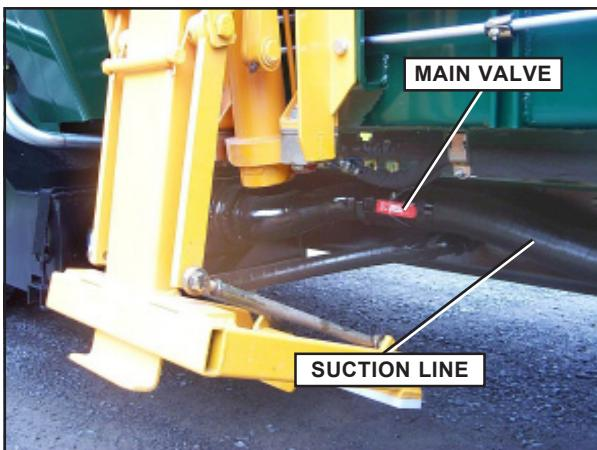

FIGURE 13.12
3. Close the main hydraulic valve on the suction line near the tank (figure 13.12).
7. Open the main valve on the tank suction line (figure 13.12).